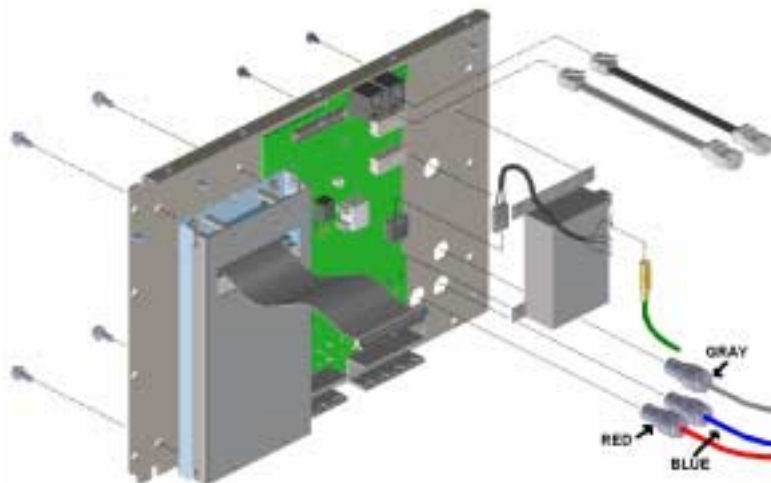

Figure 2
6. Remove the hard drive and time base from the old rear panel. (see Figure 2)
2. Install the three BNC connectors to the rear panel. (see Figure 2)